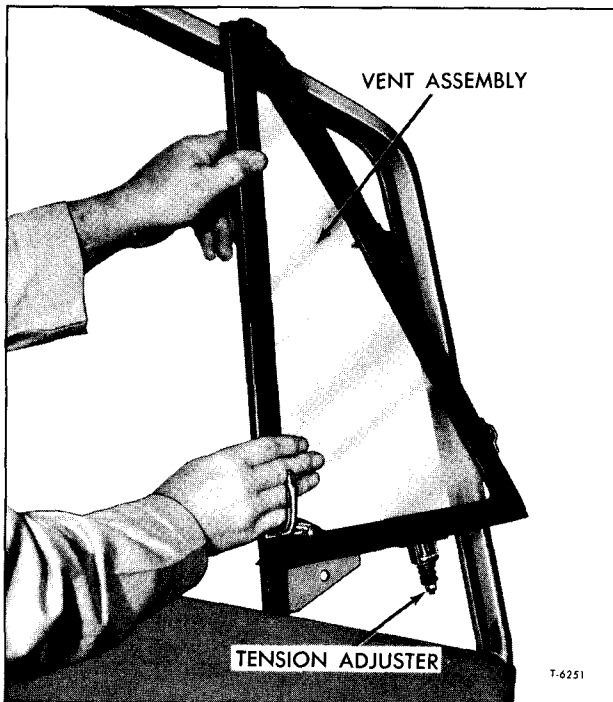

Figure 24—Replacing Vent Glass
2. Reaching up through opening in door, turn adjustment nut on vent window pivot with a speed wrench to obtain 3 1/2 to 7 pounds force when applied perpendicular to glass at locking handle (Refer to figure 24). Use either a push or pull type spring scale positioned perpendicular to rear edge of vent glass.
7. Tilt division channel and vent window assembly towards lowered window and then carefully lift assembly out of door (fig. 24).
REMOVAL (Fig. 24)